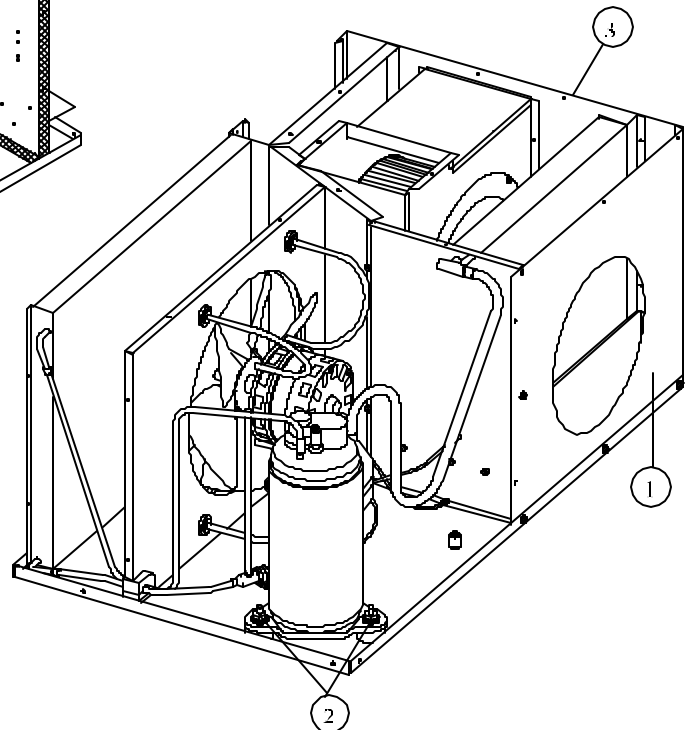

FIGURE 4
2. Remove four screws from blower end panel. See Figure 4, #3.
| 10. | Remove return air panel. See Figure 4, #1. | 13. | Remove screws holding evaporator to blower housing. Evaporator can now be removed. |
| 3. | Remove electrical wiring from top of compressor. Make sure to mark the wires. | 6. | Remove mounting nuts. See Figure 4, #2. |